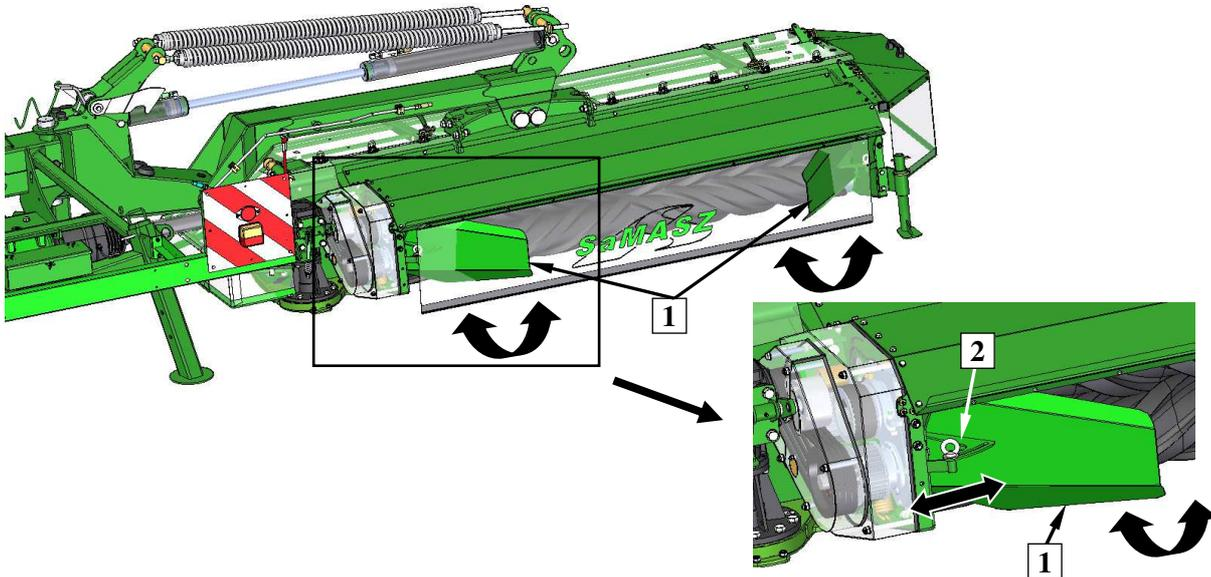

Fig. 35. Adjustment of swath guides: 1- swath guide, 2 - adjustment screw
In order to set swath width, adjustment of swath guides (1) should be performed (**Fig. 35**) (for: KDD W/WT (H)):
- ❑ loosen eye screw (2) of the swath guide,
- ❑ set the swath guide (1) as needed,
- ❑ tighten screw (2).